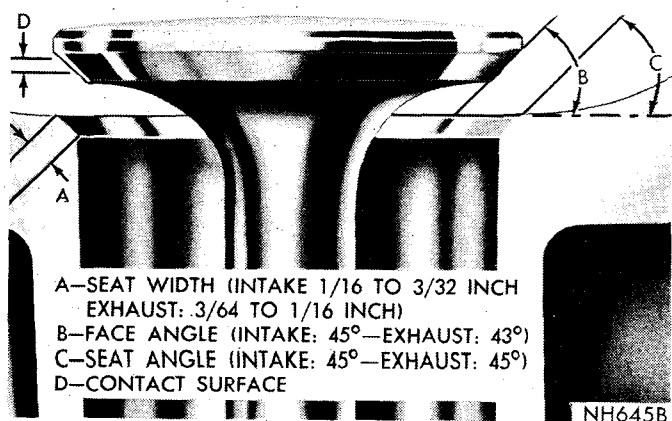

Fig. 11—Valve Face and Seat Angle
(1) The intake and exhaust valve seats and intake valve face have a 45 degree angle. The exhaust valve face has a 43 degree angle. The valve face and valve seat angles are shown in Figure 11.